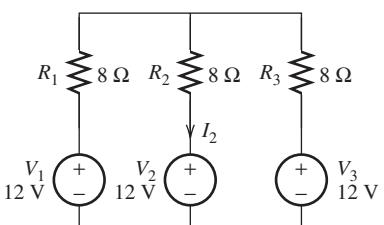

FIGURE P3.63 Circuit for Problem 3.63.
- 3.63** (B) Find the current I_2 in Figure P3.63 using the superposition technique.